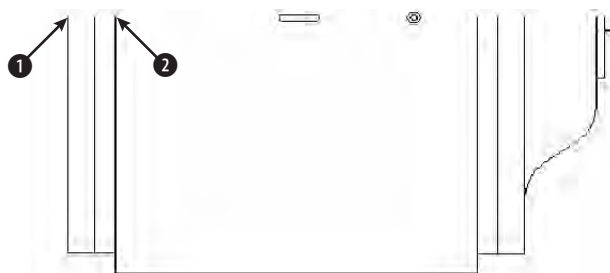

Figure 10-37: This small section of a drive block, seen from above, can easily be edited with grips.
2. Save the file as `ab10-12.dwg` in your AutoCAD Bible folder. This is a small section of a drive block, seen from above, as shown in Figure 10-37. Make sure ORTHO and OSNAP are on.
4. Pick the grip at ❶ in Figure 10-37 to activate it. AutoCAD responds with the following prompt:
10. Pick the grip at ❷ in Figure 10-37 to activate it. Right-click and choose Rotate from the shortcut menu. At the Specify rotation angle or [Base point/Copy/Undo/Reference/eXit]: prompt, type **90** ↵. AutoCAD rotates the model.